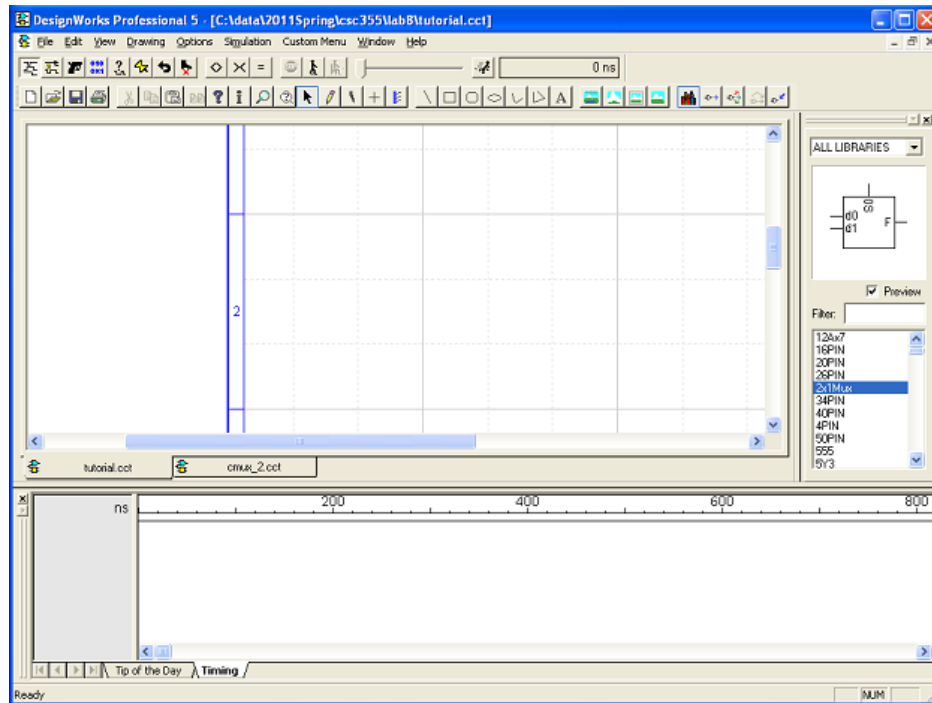

Figure 10
- p. First click on the “New Lib...” button, provide a name for your private part library, then “Save” and Click on “Finish”. The **2x1 Mux** just created is now in the parts library and highlighted. You are back to the “**tutorial1.cct**” file, with a screen as shown in Figure 10.